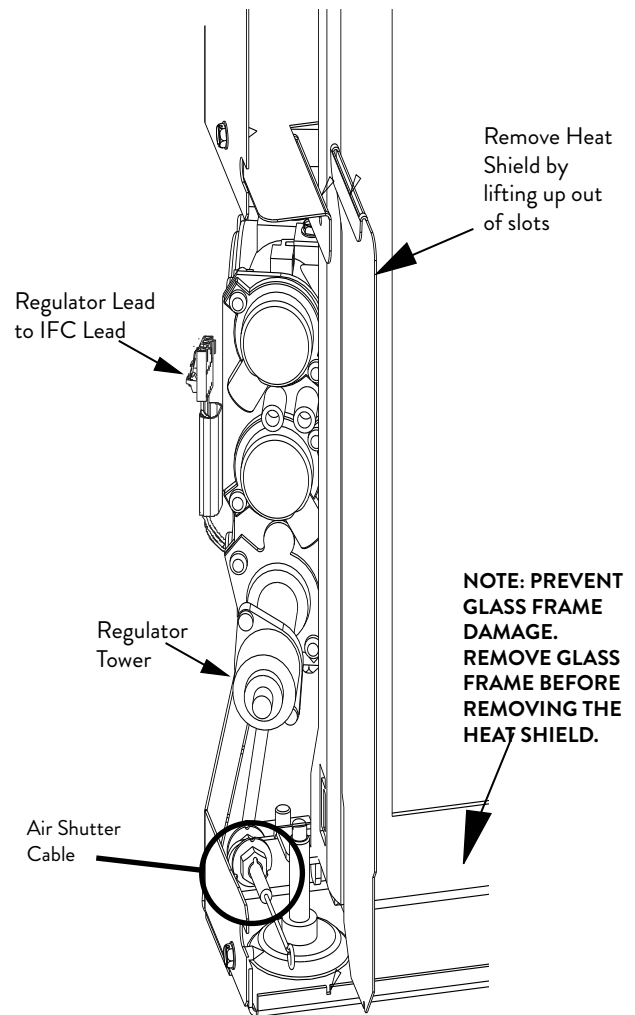

Figure 17. Replace the Regulator Tower.
8. **CHANGE THE VARIABLE REGULATOR TOWER** on the gas control valve. See fig. 17.
- Push/Pull each side air shutter cable to confirm that both shutters move freely through the full range of travel. See figs. 17, and 68, pg. 33.